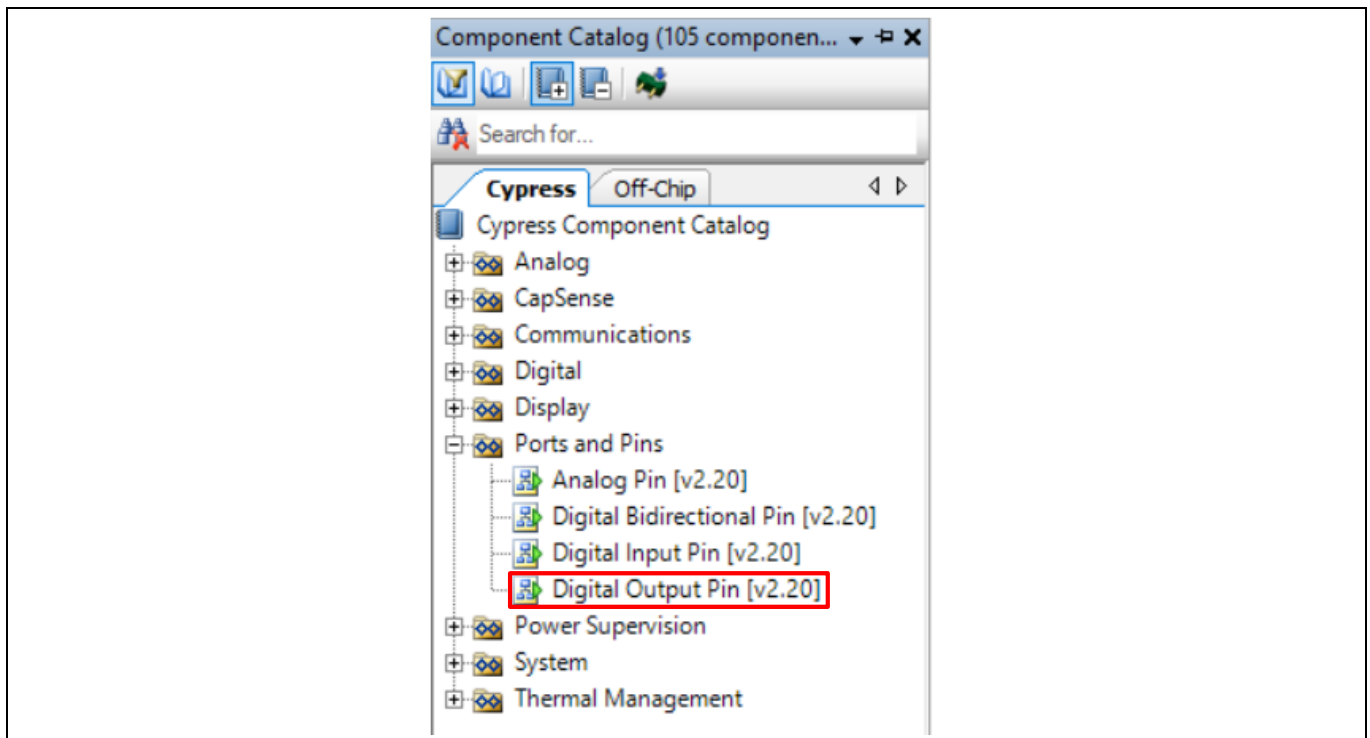
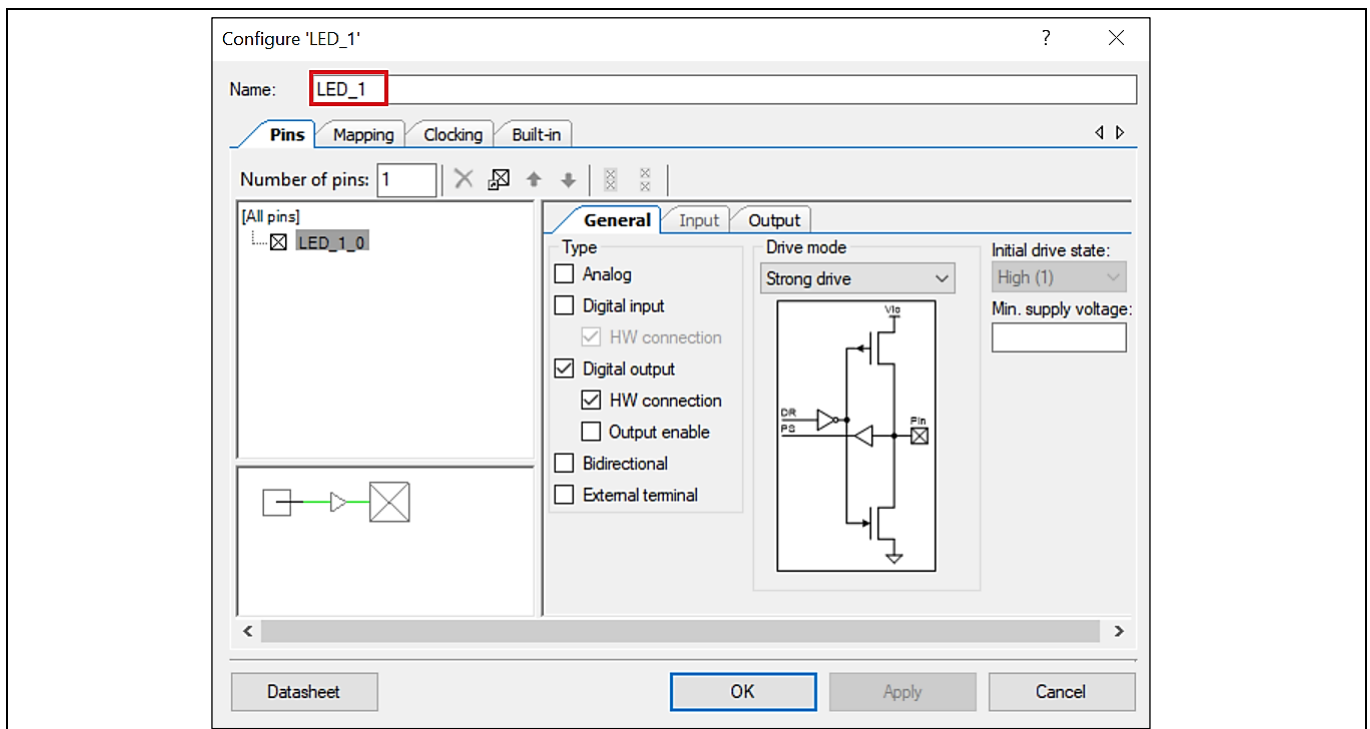

Figure 42 Location of the digital output pin Component
Figure 43 Renaming a pin Component
9. Drag and drop a **Digital Output Pin** Component. Change the name to LED_1 as shown in **Figure 42** and **Figure 43**. Add another Digital Output Pin Component and change its name to LED_2.